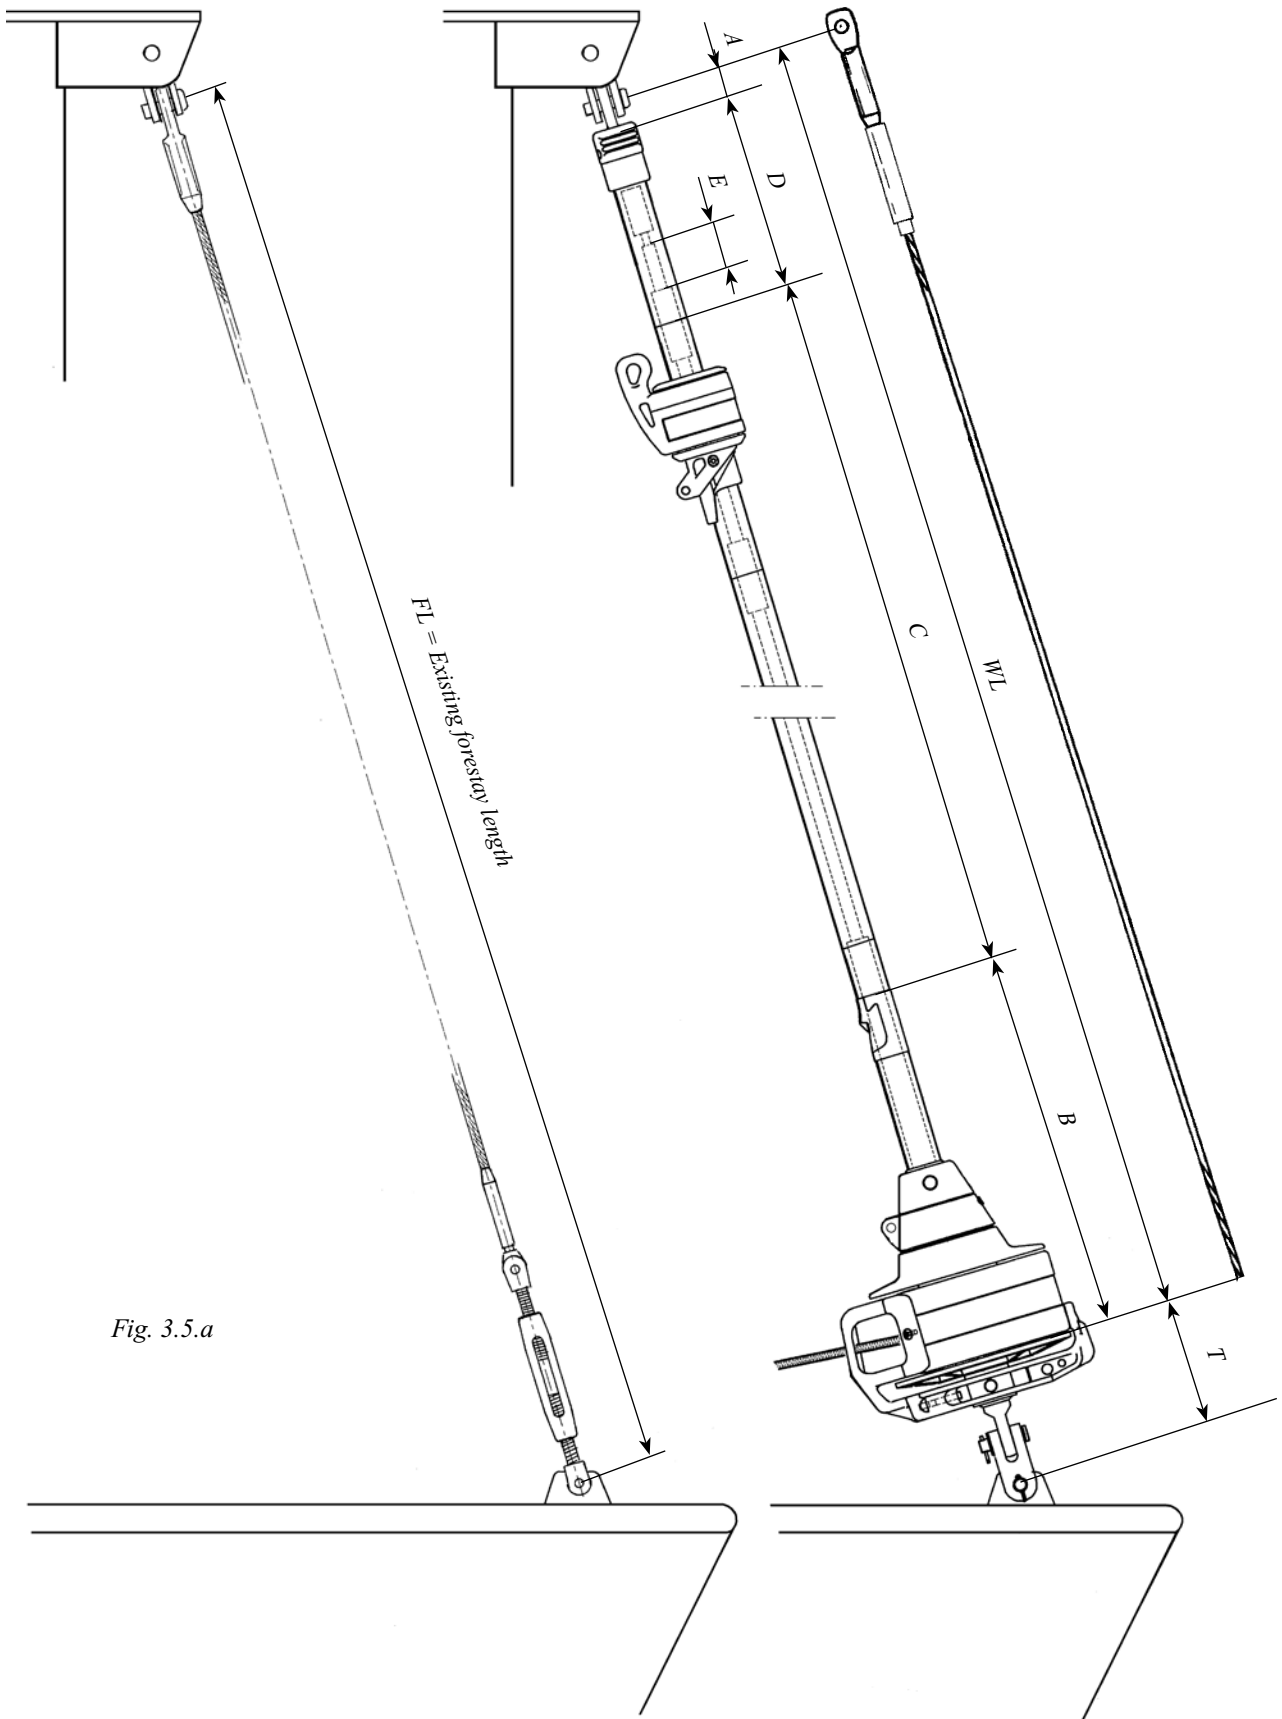

Fig. 3.5.a
16. Check the length FL of the stay acc. "Table 1" (3.5.1) & Fig. 3.5.a. If the Furlex rigging screw is fitted, it should be 50% extended. ("Rigging screw adjustment", see table 14.1.1.)